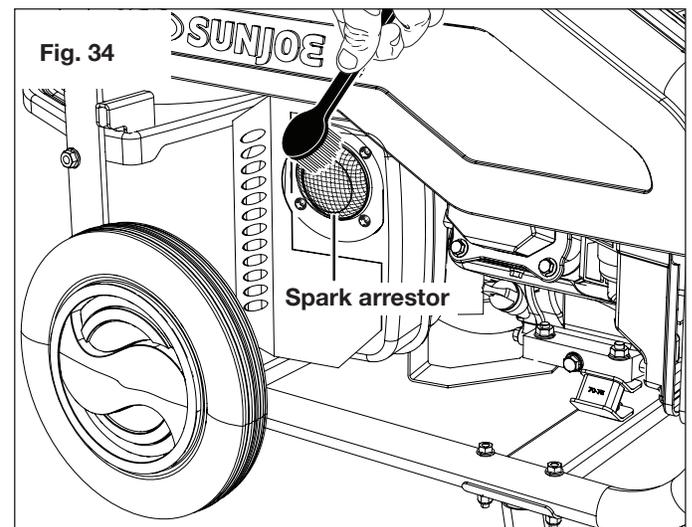

Fig. 34
2. Use a brush to remove carbon deposits from the spark arrestor screen as needed (Fig. 34).